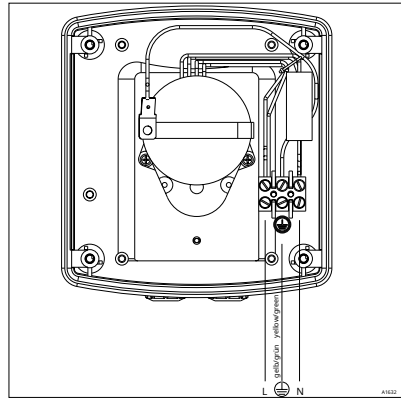

Fig. 7: Terminal diagram
7. → Connect the mains cable accordingly, see Fig. 7 (protective conductor connection)